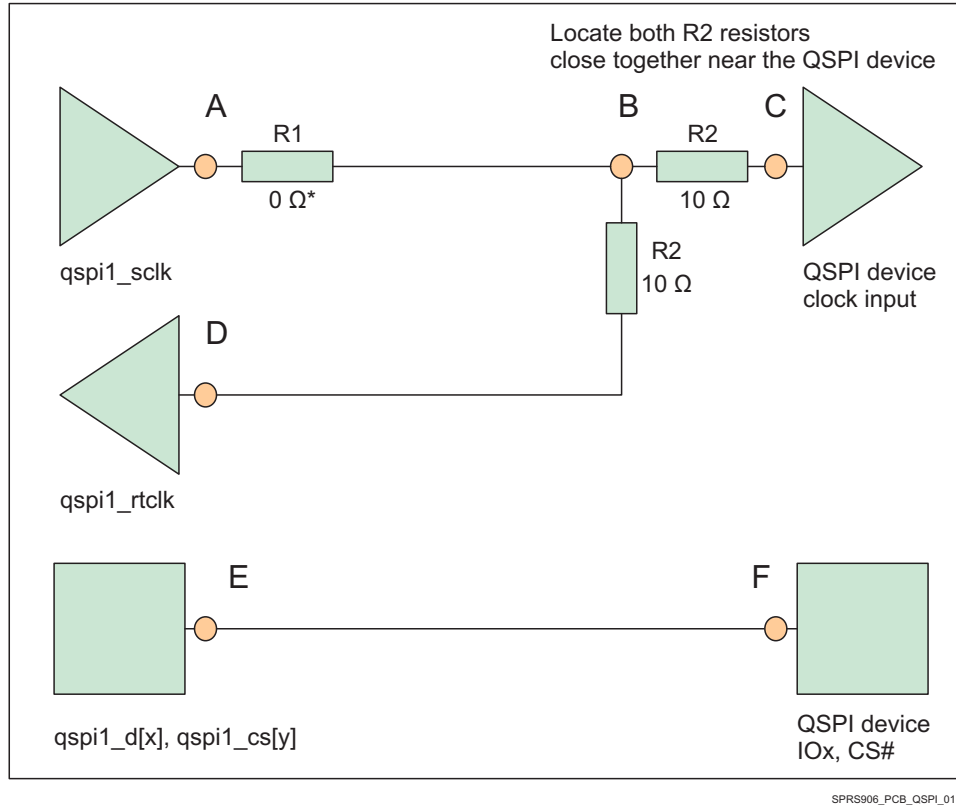

图 8-30. QSPI Interface High Level Schematic
- 50 Ω PCB routing is recommended along with series terminations, as shown in Figure 8-30.